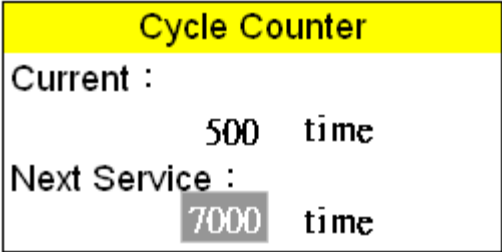

Figure 128
C. Press  or  button to change next service times, and press  button to store the parameter in Figure 128.